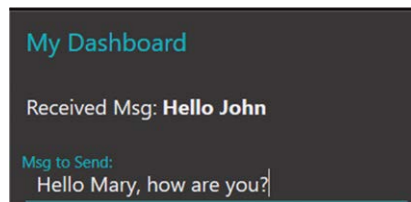
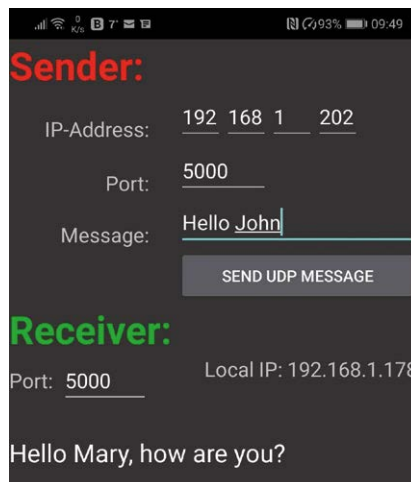
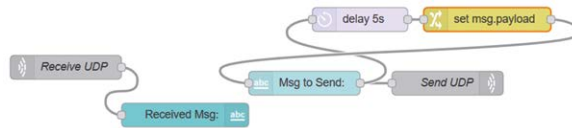

Figure 9.30 Display on the Dashboard
Figure 9.31 Display on the mobile phone
Figure 9.32 Modified flow program
- Join the nodes as in Figure 9.25 and click **Deploy**. To test the program, use the apps **UDP RECEIVE and SEND** as described earlier in this Chapter. Start the Dashboard by entering the following at your web browser (replace the IP address with your own Raspberry Pi IP address). Example output on the Dashboard is shown in Figure 9.30. The corresponding display on the mobile phone is shown in Figure 9.31:
In the program flow in Figure 9.25, the message sent to the mobile phone (Msg To Send: in Figure 9.30) remains in the text box. As a result, in order to send a new message, we have to delete the existing message. This can be changed so that the message is deleted automatically after 5 seconds of pressing the Enter key. The modified flow program is shown in Figure 9.32.